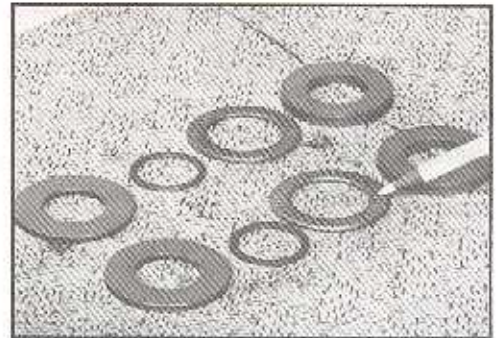

Figure 96
4. Inspect the thrust bearing (15) rollers for any deterioration. Inspect the thrust washers (17) and (14) for brinelling, spalling, or cracks. SEE FIGURE 96. Replace the part if you detect these conditions.